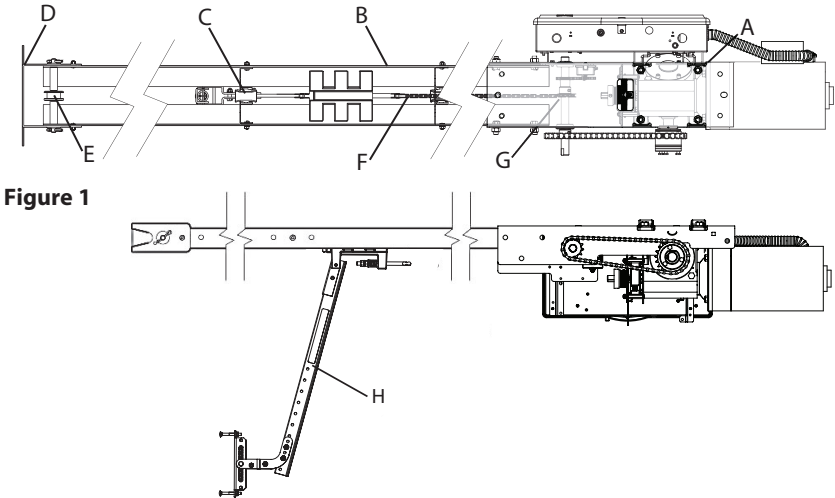

Figure 1
The Model RHX® Trolley Operator consists of the Power Unit (A), Drawbar Track (B), Chain Guides (C), Front Spreader (D), Front Idler Pulley (E), Drive Chain (F), Drive Sprocket (G) and Drawbar Arm (H)**. The Drawbar track length, chain length and quantity of chain guides will vary by door heights. **Fig. 1.**